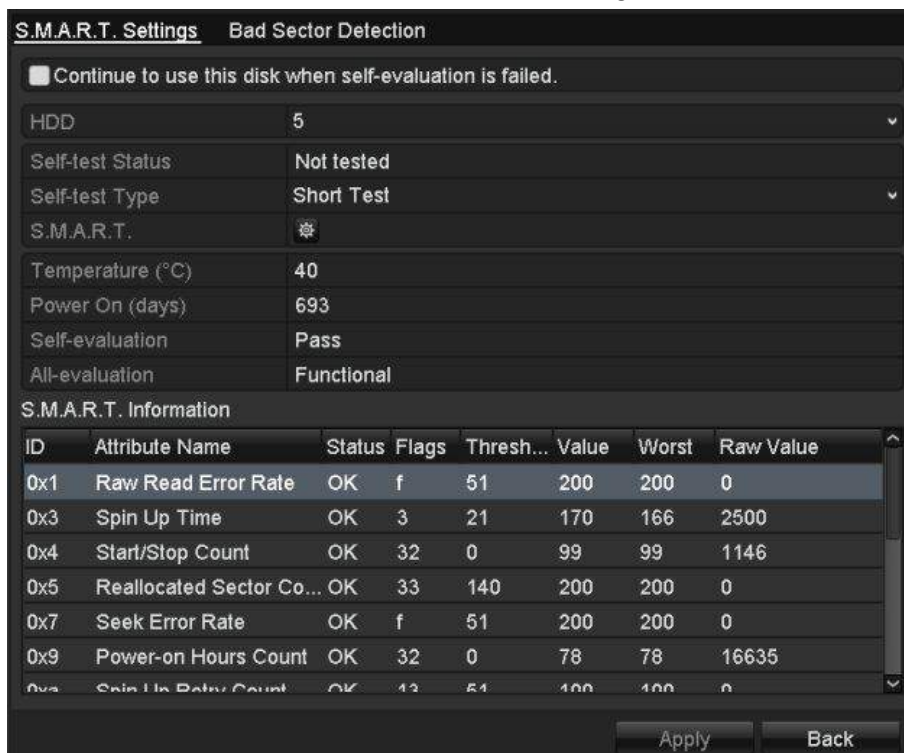

Figure 13. 27 S.M.A.R.T. Settings Interface
2. Select the HDD to view its S.M.A.R.T. information list, as shown in Figure 13. 27.